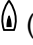

**FIG. 12**
**NOTE:** The colour of the flame shall be clear blue over the slots of the burner. (See FIG. 12).